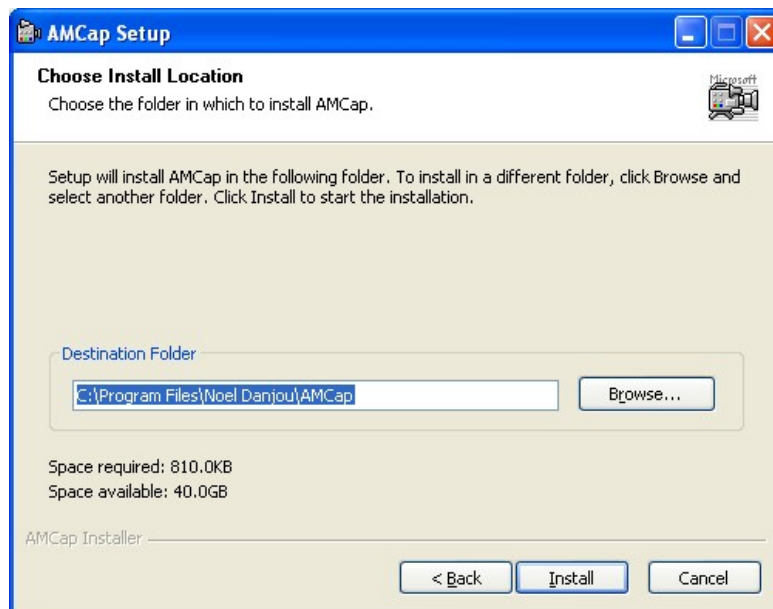

Figure 7-28: AMCap Driver Choose Install Location
Step 6: Browse for an install location or use the one suggested (Figure 7-28).